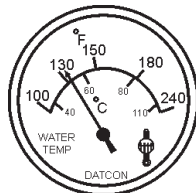

Figure 50. Coolant Temperature Gauge
12. The coolant temperature gauge (Figure 50) will indicate the coolant temperature. Under normal operating conditions the coolant temperature should be between 167°~203°F (75°~95°C) (**Green Zone**).